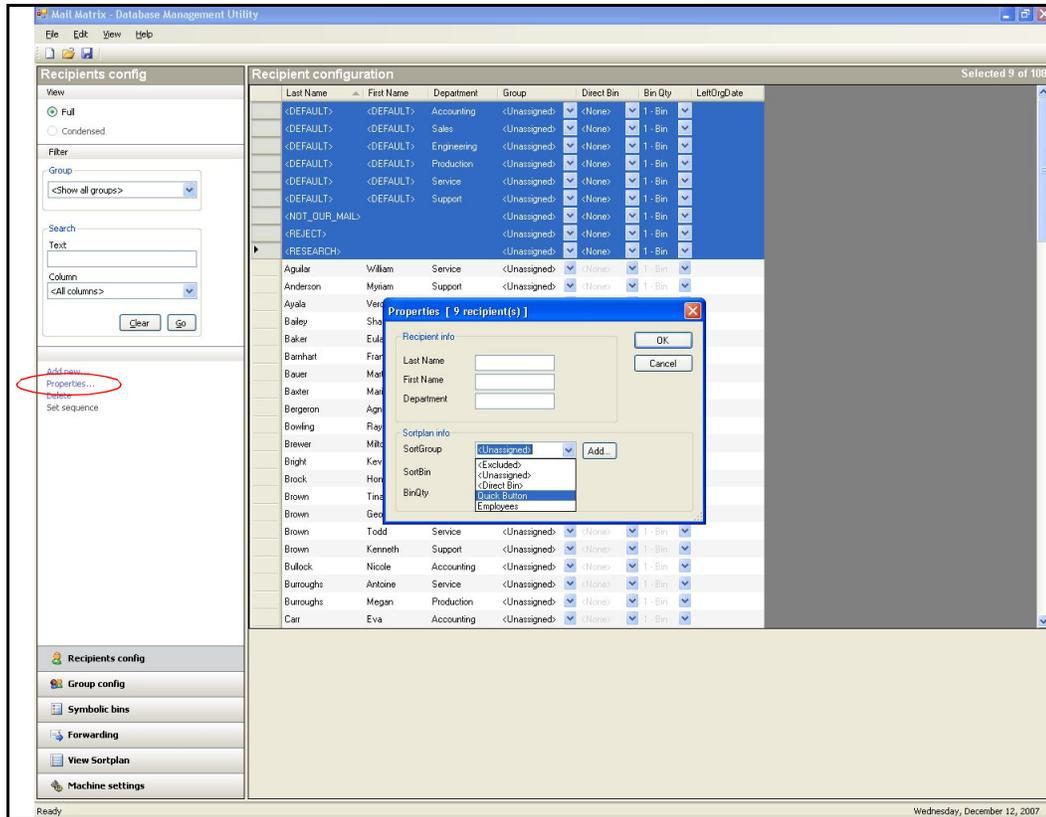

Figure 168: Add recipients to the Quick Button group
7. Click **Properties...** to adjust the properties for all the selected recipients at once (Figure 168).